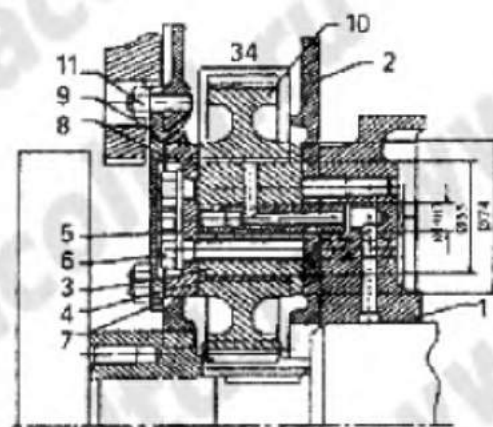

Fig.7-5 Intermediate gear
The structure of intermediate gear is shown in fig.7-5. The rolling bearing is replaced by a sliding bearing which composed of gear axle (3), bushing (4), and core axle (5). Except as an oil passage, the core axle serves the function of ensure the location of gear axle (3). The gear axle (3) is fixed (through a plate 8) on gear case (2) and cylinder block (1) by four screws (6). The supporting rigidity for the intermediate gear is improved largely, and with the radial clearance of intermediate gear is limited in a small range by the sliding bearing, the mesh accuracy of gears is guaranteed. Thus the possibility of trouble is reduced and the service life of intermediate gear is increased.